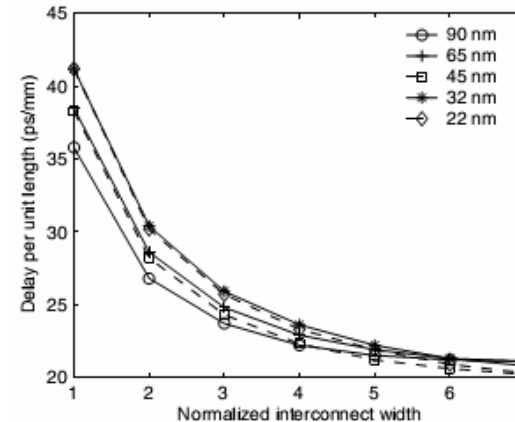

Fig.1 Minimum delay per unit length as a function of normalized interconnect with  $(W/W_{min})$  [2].
- High-definition (HD) Video/TV
- Electrical interconnect performance stagnates since several CMOS generations (Fig. 1+2)